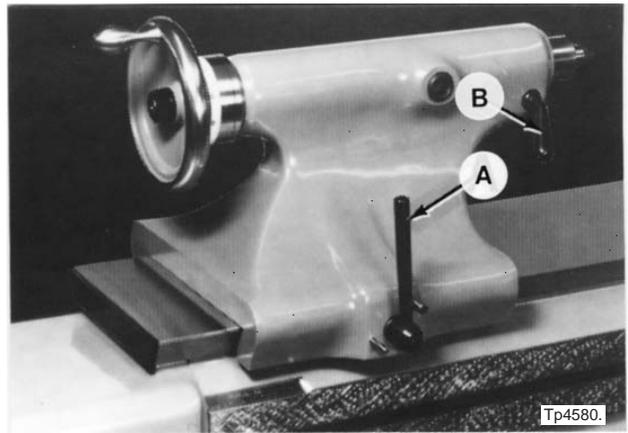

Figure 6.35 - Tailstock Locking Lever
Tailstock locking lever "A", Figure 6.35, is shown in the locked position.
1. Loosen tailstock locking lever "A", Figure 6.35, and remove the tailstock over the end of the bed.